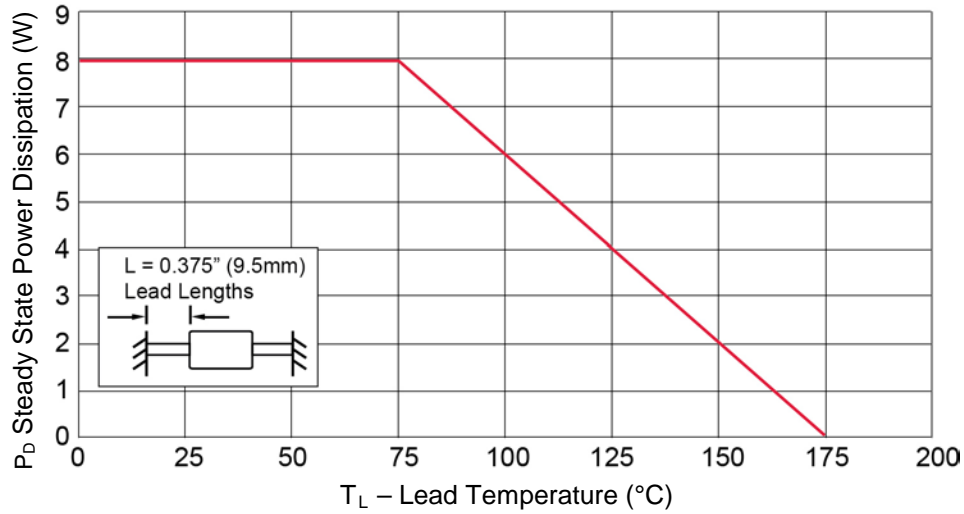

FIGURE 5
2. Mounted as shown in Figure 5.